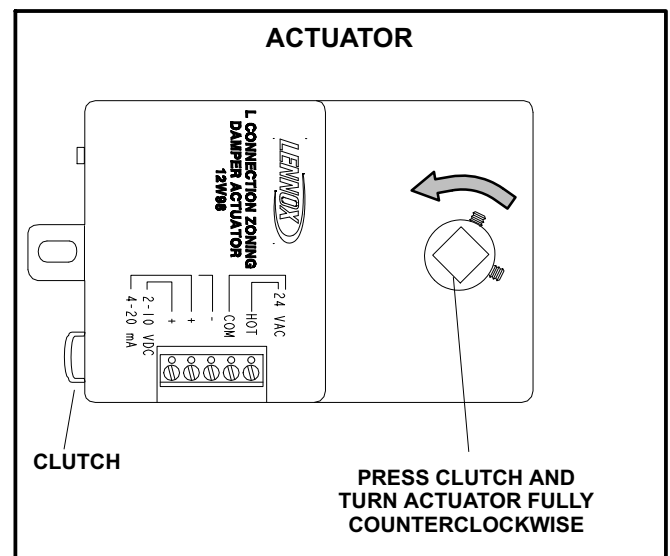

FIGURE 5
- 3- Press the clutch and rotate the actuator shaft to the fully counterclockwise position. See figure 5.